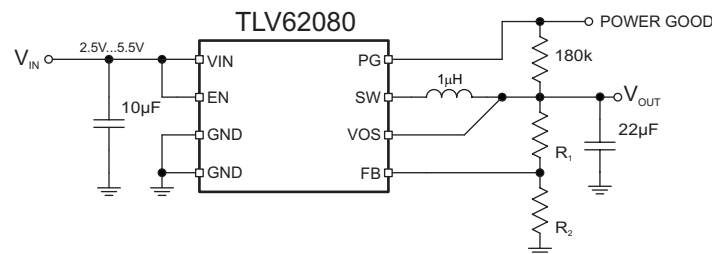

Figure 17. Typical Application Circuit
- Changed pin VSNS to VOS in Figure 17 12